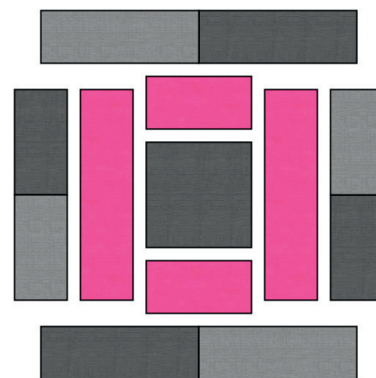

fig 2
- To make block 4, sash the top and bottom of the S8 2 ½" square with the P5 (or B6) 1 ½" x 2 ½" strips then the sides with the 1 ½" x 4 ½" strips (fig 2). Sew the 1 ½" x 2 ½" and the 1 ½" x 3 ½" S5 and S8 strips into pairs end to end. Sew the shorter strips onto the sides of the block then the longer strips onto the top and bottom (fig 2).